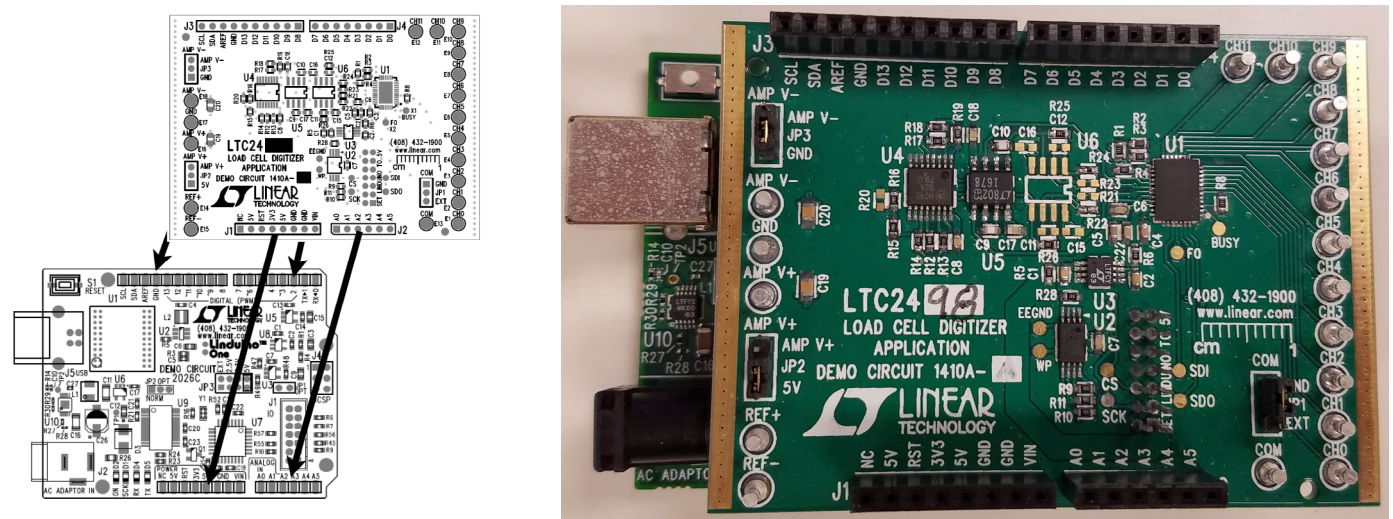

Figure 2. DC1410 Connected to the Linduino
1. Insert the DC1410A on to the Linduino (DC2026). Figure 2 shows the correct orientation.